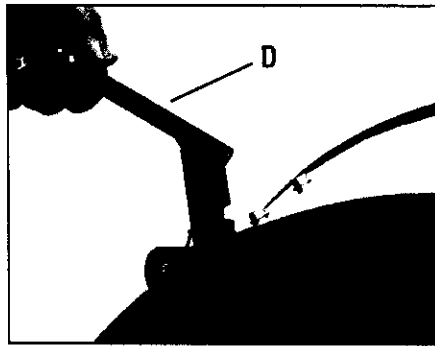

Figure 3-4: Depth Regulator Lever.
This lever (D, Figure 3-4) controls the tilling depth of the tines. Pull the lever straight back and slide it up or down to engage the notched height settings.
2. With the tiller on level ground, pull the Depth Regulator Lever (Figure 3-4) back and then all the way up until the lowest notch in the lever is engaged.